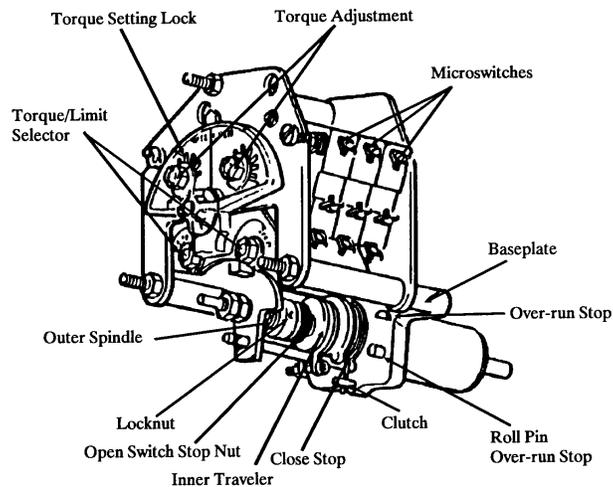

Figure 13-9 Switch Mechanism (Nuclear)
4. Remove the switch mechanism using the following steps: (Refer to Figure 13-9)